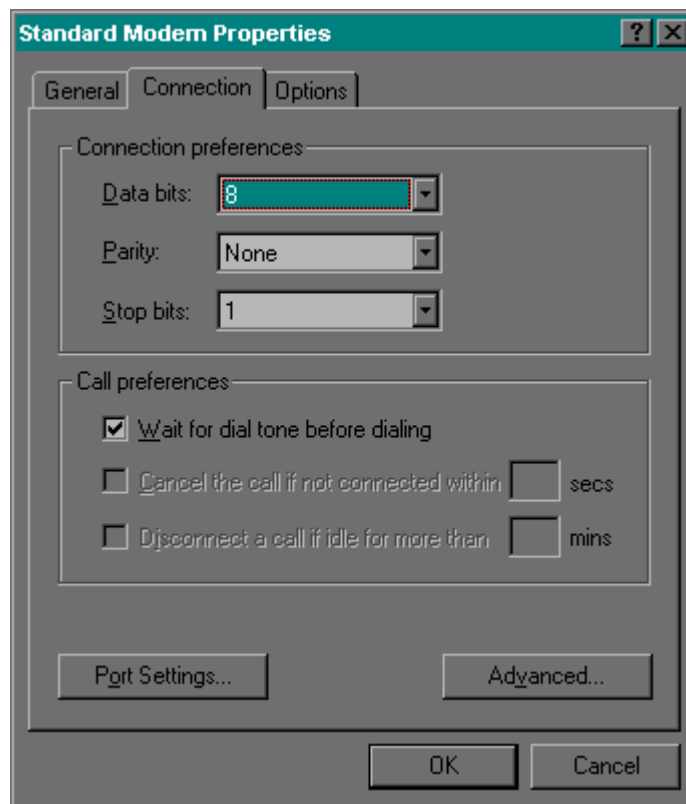

Figure 4-13. Modem Properties/Connection window
8. Click on Connection. This will bring you to the "Modem Properties/Connection" window as shown in Figure 4-13. Setup your window with the same parameters as those shown in Figure 4-13.